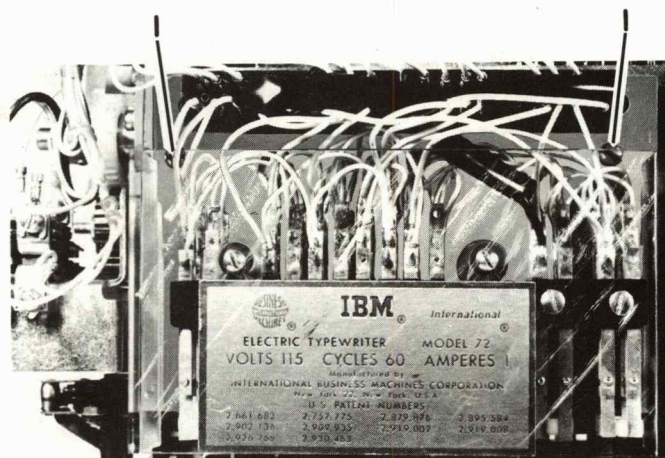

FIGURE 7. Belt Replacement
- \* 6. Remove the two screws (#1, Figure 7) that hold the plate to the frame. Remove the contact assembly, holding it to the front with a rubber band.